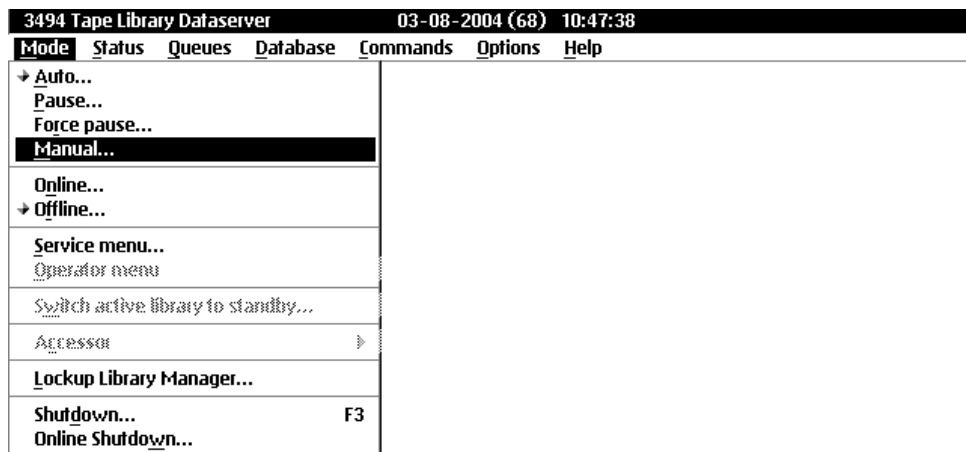

Figure 214. Mode Window
1. Select **Mode** (Figure 214) from the action bar of the Operator menu at the Library Manager (see “Using the Mode Window” on page 120).